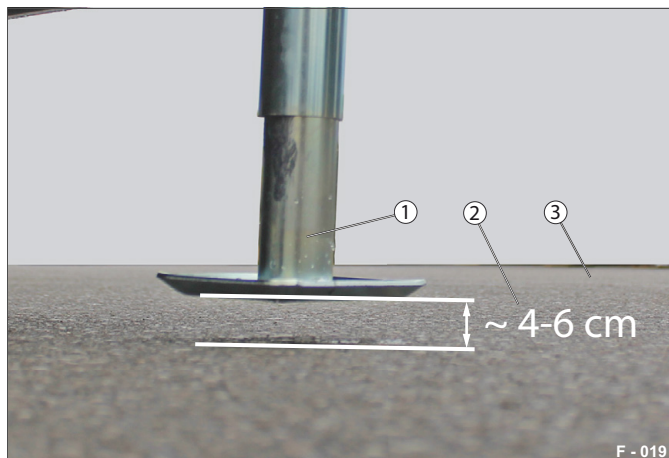

Fig. 22 Air gap when loading
- Lower the support legs so that an air gap (Fig. 22 /2) of **~ 4-6 cm** remains between the ground (Fig. 22 /3) and support leg (Fig. 22 /1).